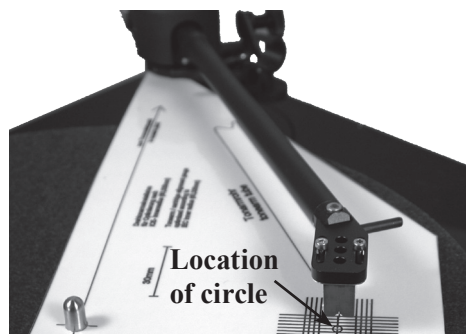

Figure 27
2. With the Anti-Skate Adjustment set to minimum (refer to figure 37), carefully place the Tone Arm onto the Alignment Gauge with the diamond tip of the stylus on the center of the small circle located between the parallel lines. Refer to figures 27 and 28.